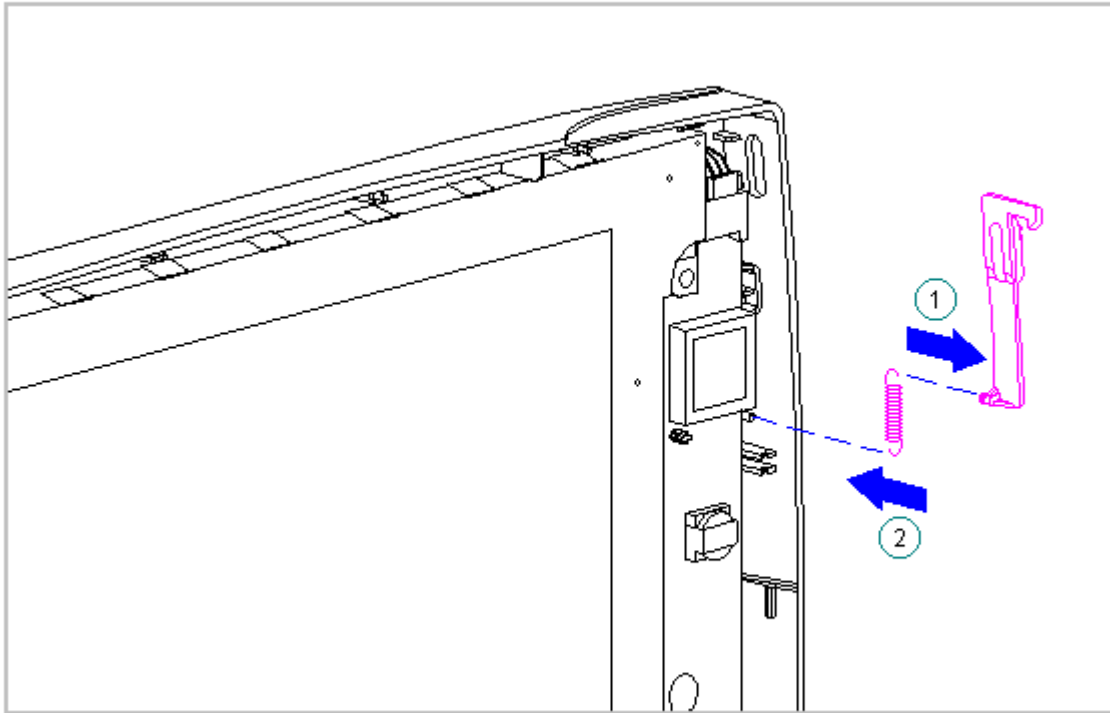

Figure 3-133. Replacing the Display Latch Spring (Models 420 and 430)
1. Hook the display latch spring on to the display latch [1] and place the display latch spring over the post in the display enclosure [2] (Figure 3-133).